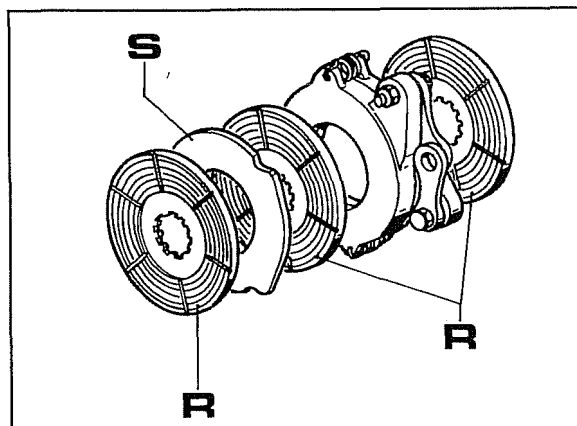

Fig. 22
- Fig.22 illustrates a brake disk pack ass'y installed on tractors with chassis number up to C467493.